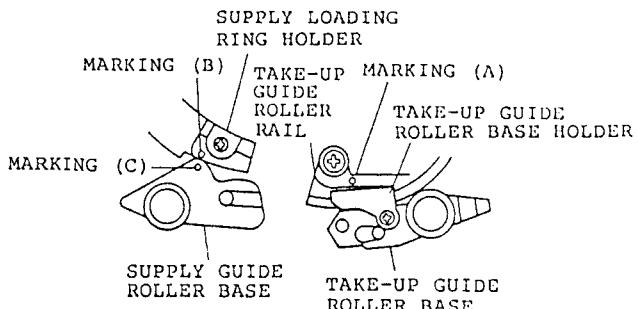

Fig. 3-6
## 3. CONFIRMATION OF UNLOADING POSITION (Fig. 3-6)
- 1) After performing loading and unloading several times, set the unit to the unloading (stop) state and check that marking (A) on the take-up guide roller rail and the center of take-up guide roller base holder are approximately aligned, and marking (B) on the supply loading ring holder and marking (C) on the supply guide roller base are also aligned. (See Fig. 3-6)